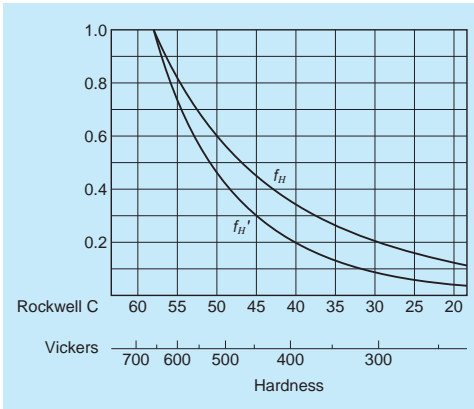

Fig. 2.6 Hardness coefficient
- $f_H$ : Hardness coefficient (Refer to Fig. 2.6)
- $f_{H'}$ : Static hardness coefficient (Refer to Fig. 2.6)